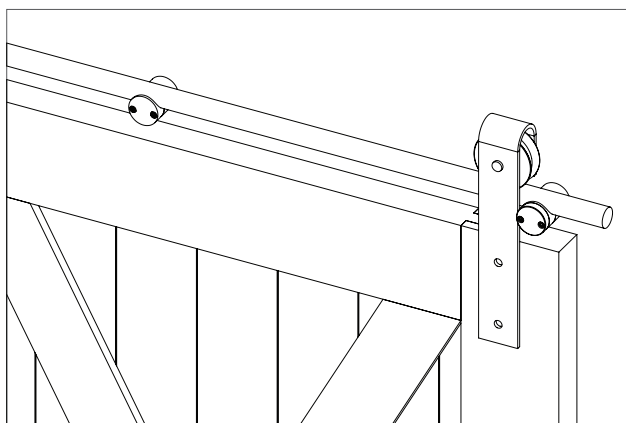

Figure 6
9. Mount door to track (Figure 6).